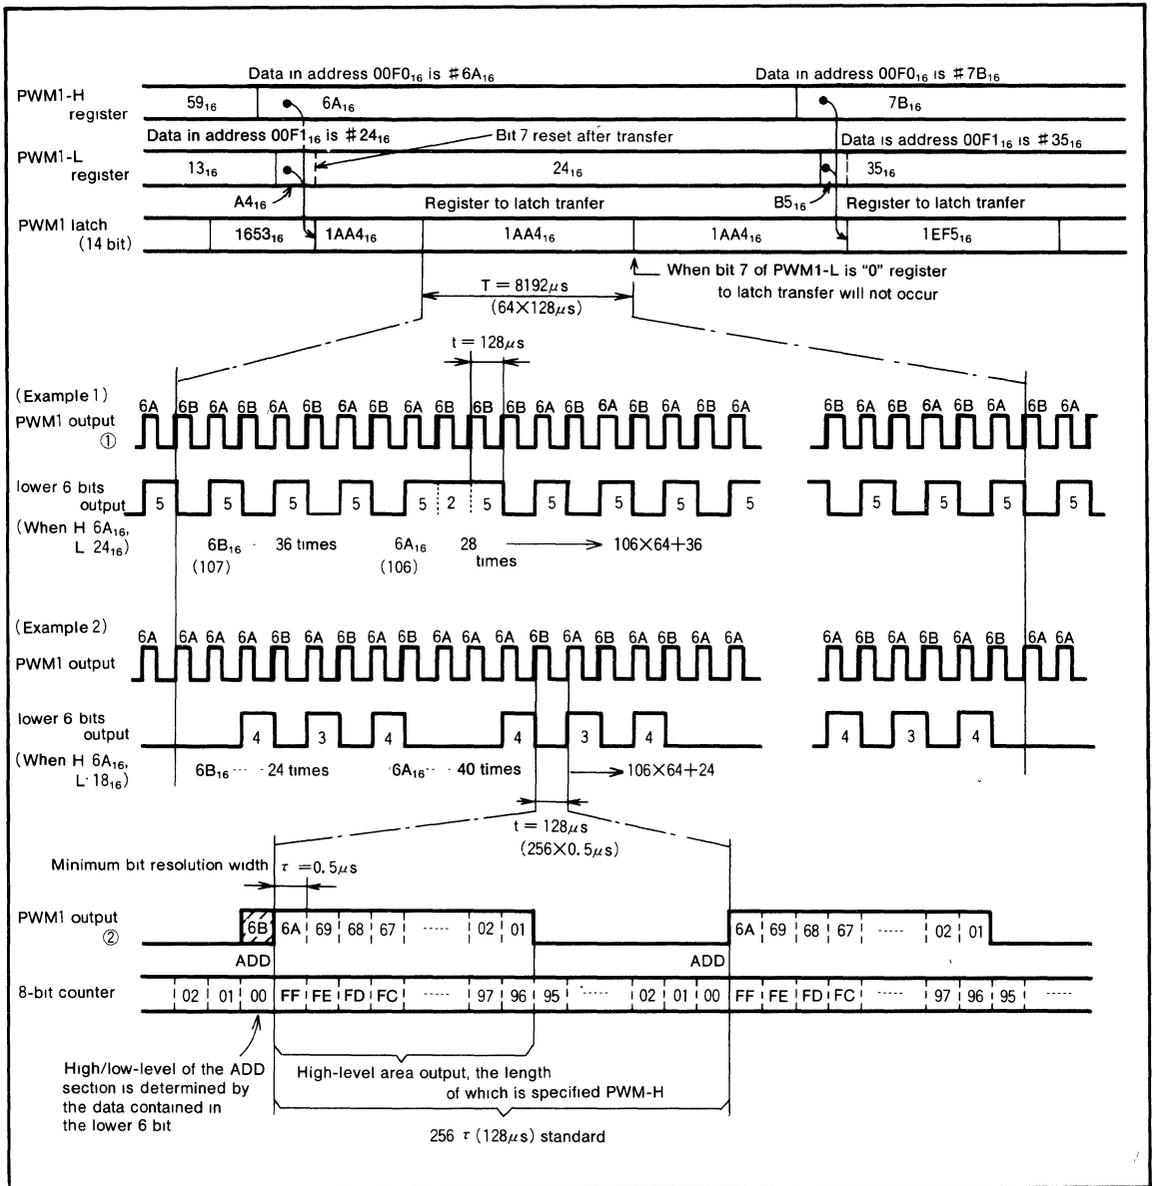

Fig. 16 14-bit PWM timing diagram
The timing diagram of the 14-bit PWM1 is shown in Figure 16. The 14-bit PWM divides the data within the PWM latch into the lower 6 bits and higher 8 bits.
A high-level area within a length N timers τ is output every short area of $t = 256 \tau = 128\mu\text{s}$ as determined by data N of the higher 8 bits. (Refer to PWM output ② in the lower part of Figure 16.)